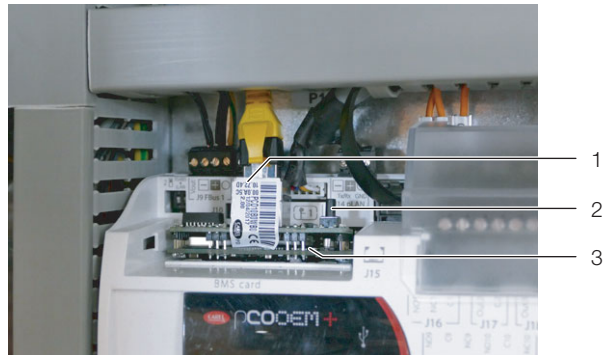

Fig. 38: pCO Web card
- Press the Reset button (fig. 38, item 2), if necessary with the assistance of a second person, and keep it held down for around 20 seconds whilst the card is booting up, until the status LED flashes three times slowly.